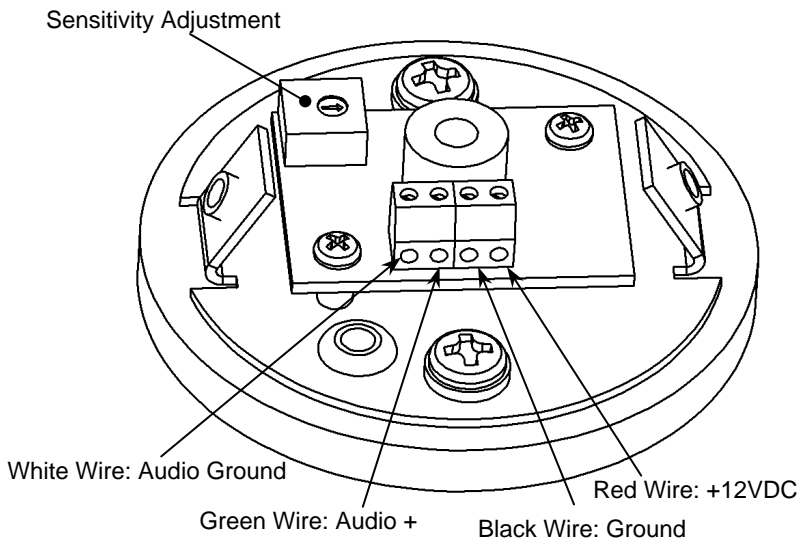

Figure 4: Terminal Block Wiring
- 3 For easier installation, the cable can be removed from the microphone by using a small slot screwdriver to undo the connections from the terminal blocks. Refer to **Figure 4** for the wiring connections to the terminal blocks on the SA-MIC circuit board.